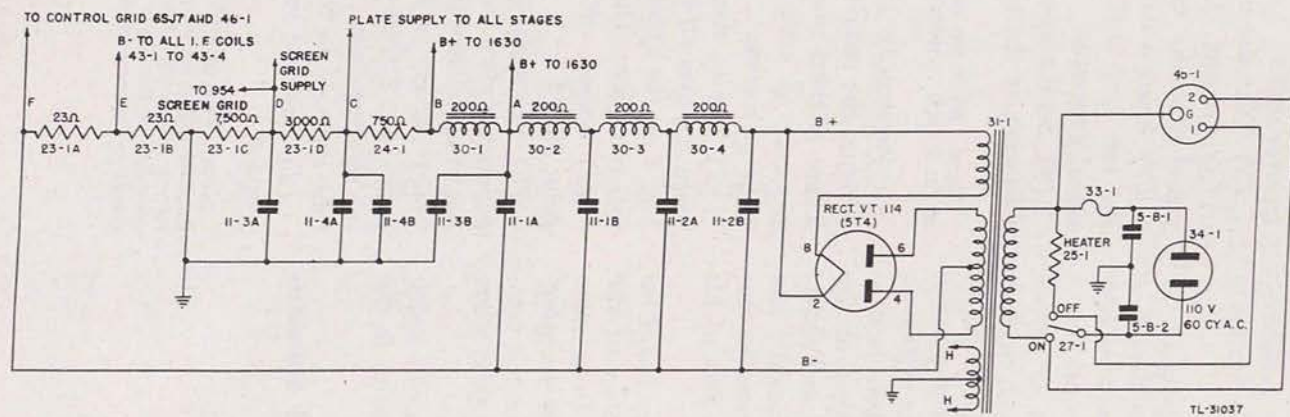

Figure 64. Receiver BC-404-C, schematic of power supply.
b. PREPARATORY STEPS. (1) Check receiver power supply before proceeding with the following tests (fig. 64).
(2) Remove the receiver chassis from its case and place the receiver so that the end containing the power transformer rests on the work bench.
(3) Connect the test oscilloscope to the receiver output jack. The test scope must remain connected in this position during the complete signal-substitution procedure.
(4) Remove the 955 oscillator tube from the receiver unit.
(5) Turn the receiver and test instruments on.
(6) Connect the ground test lead from the signal generator to the receiver chassis.
(7) Insert a 0.001- μ f capacitor in series with the test cord and the positive terminal of the signal generator.
(8) Set the signal generator to the intermediate frequency of the receiver.